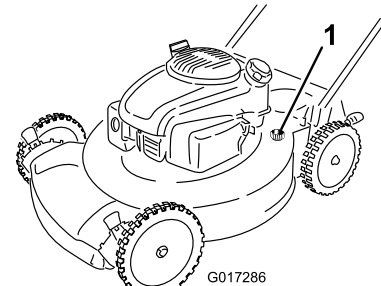

Figure 22
4. Attach a garden hose that is connected to a water supply to the washout port on the mower housing (Figure 22).